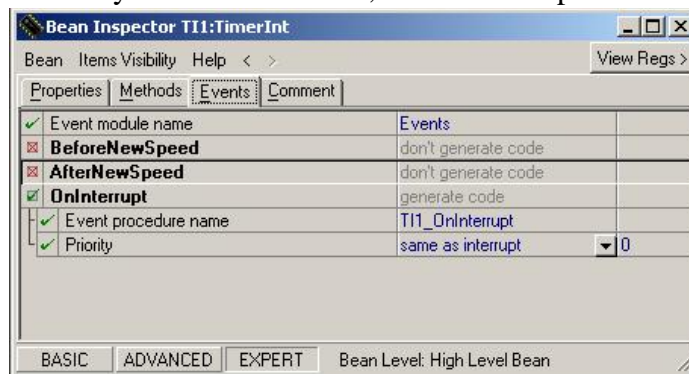

Figure 16. Bean Inspector Window - Events for TimerInt Bean
- Figure 16 shows the Events tab in the Bean Inspector window, select the tab to configure. For the TimerInt bean there is only one event enabled, the OnInterrupt.